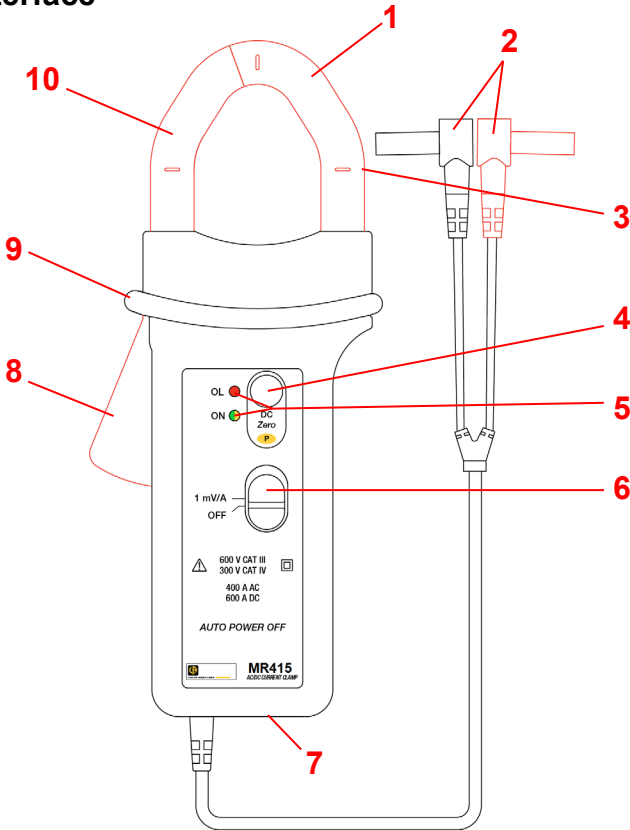

Figure 1 (MR415 shown)
2. Clamp the jaws around the conductor to be measured. Use the centering marks on the jaws to position the clamp around the conductor. If the measurement is to be used in a power calculation, ensure the arrow on the clamp jaws (see Figure 1) points in the direction of the current flow: source  $\Rightarrow$  load.